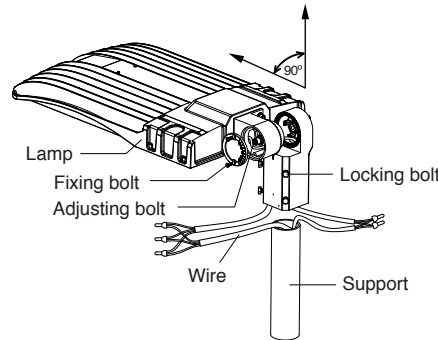

Figure 1-1
1. Loosen the 4 locking bolts on the slip fitter, connect the wire correctly and put the wire into pole. Then fasten the locking bolts between slip fitter and the pole. (Figure 1-1)
2. Loosen the fixing bolts and adjustable bolts, align the fixture to required angle. Tighten adjusting bolt and fixing bolts after the angle is confirmed. (Figure 1-1)